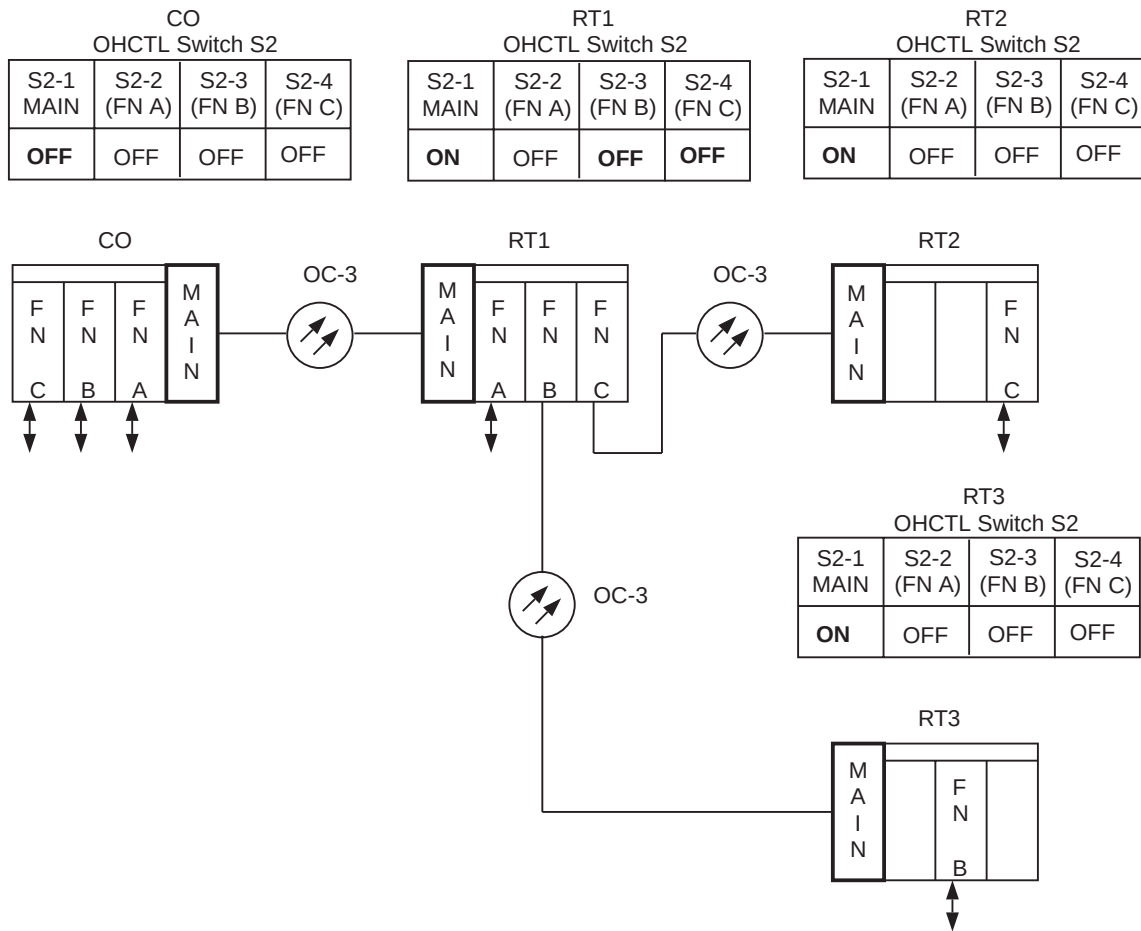
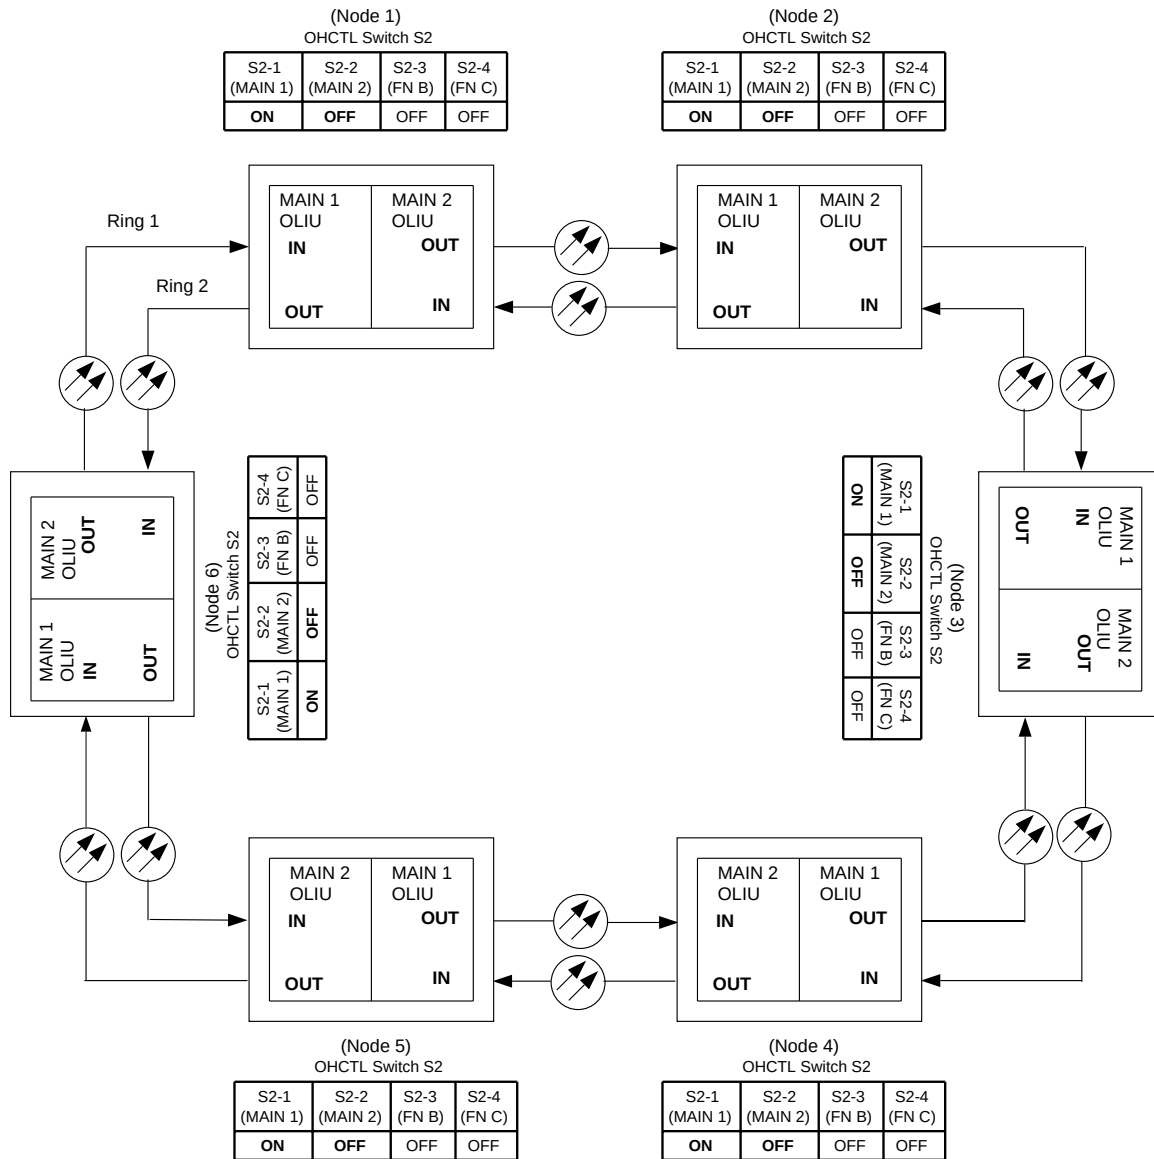

Figure 2 – Example OHCTL Switch S2 Settings — OC-3 Linear/Hub Configuration
Figure 3 – Example OHCTL Switch S2 Settings — OC-3 Ring Configuration
5. See Notes below. Using the examples in Figure 2 and Figure 3 or the work order, set **S2** switches for OSI interworking. (The necessary switch settings in Figure 2 and Figure 3 are highlighted in bold type. For example, in Figure 2, the optical span between RT1 and RT3 requires that switch **S2-3** at RT1 be set to **OFF** and switch **S2-1** at RT3 be set to **ON**.)
Switches **S2-1** through **S2-4** on the **OHCTL** are used to control the identification of the DCC for open systems interconnection (OSI) interworking. For a given optical span, the network elements that terminate on each side of the optical span must have their "network side"/"user side" parameters set to opposite values to avoid an **inconsistent DCC switches** alarm. Switch **S2** is set to **OFF** for the network side and **ON** for the user side of network elements in an optical span. Figure 2 illustrates the **S2** switch settings for switches associated with **OLIUs** in the **MAIN** and **FUNCTION UNITS** slots at each end of the interconnected optical spans for linear/hub configurations. Figure 3 illustrates the switch settings for ring configurations.